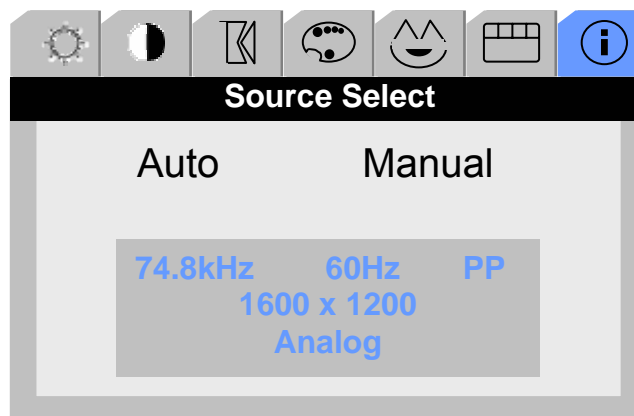

Figure 32: Source Select Menu
2. Using the + or – button, choose the Source select tab, see Figure 32.